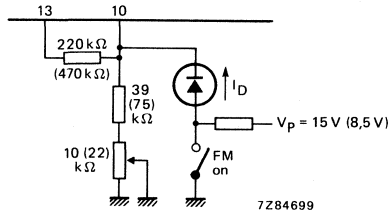

Fig. 4 The oscillator is switched-off when: $I_D > 100 \mu A$ ($> 50 \mu A$ for $V_p = 8,5$ V) and $I_D < 1$ mA.
5. Switching 'OFF' the oscillator; see Fig. 4.